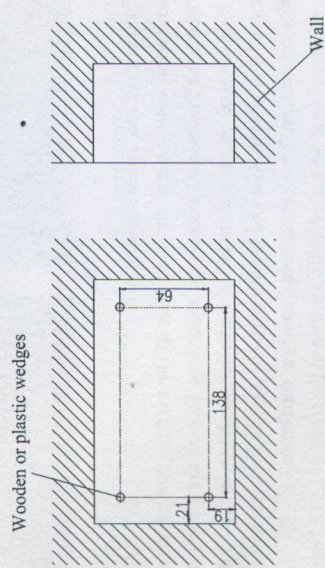

Fig. 18
- 2) Make 4 pieces of wooden or plastic wedges and then secure them , as shown in Figure 18 .